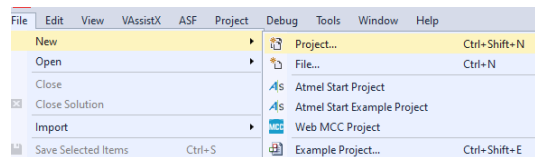

Figure 1: Navigating to Project Creation.
1. Open *Microchip Studio* and create a new project via File \rightarrow New \rightarrow Project as shown in *Figure 1*.